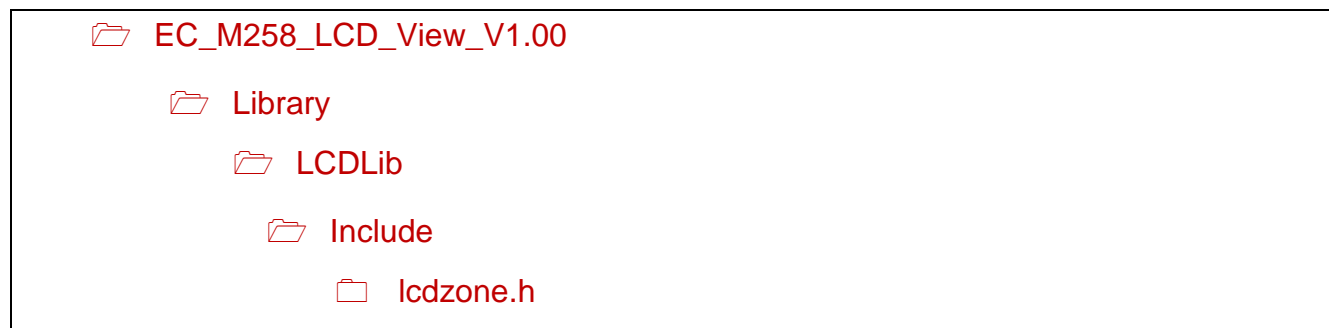

Figure 1-14 File Path of lcdzone.h
- Replace lcdzone.h under library directory with the one generated from LCDView. The file path is shown in Figure 1-14.